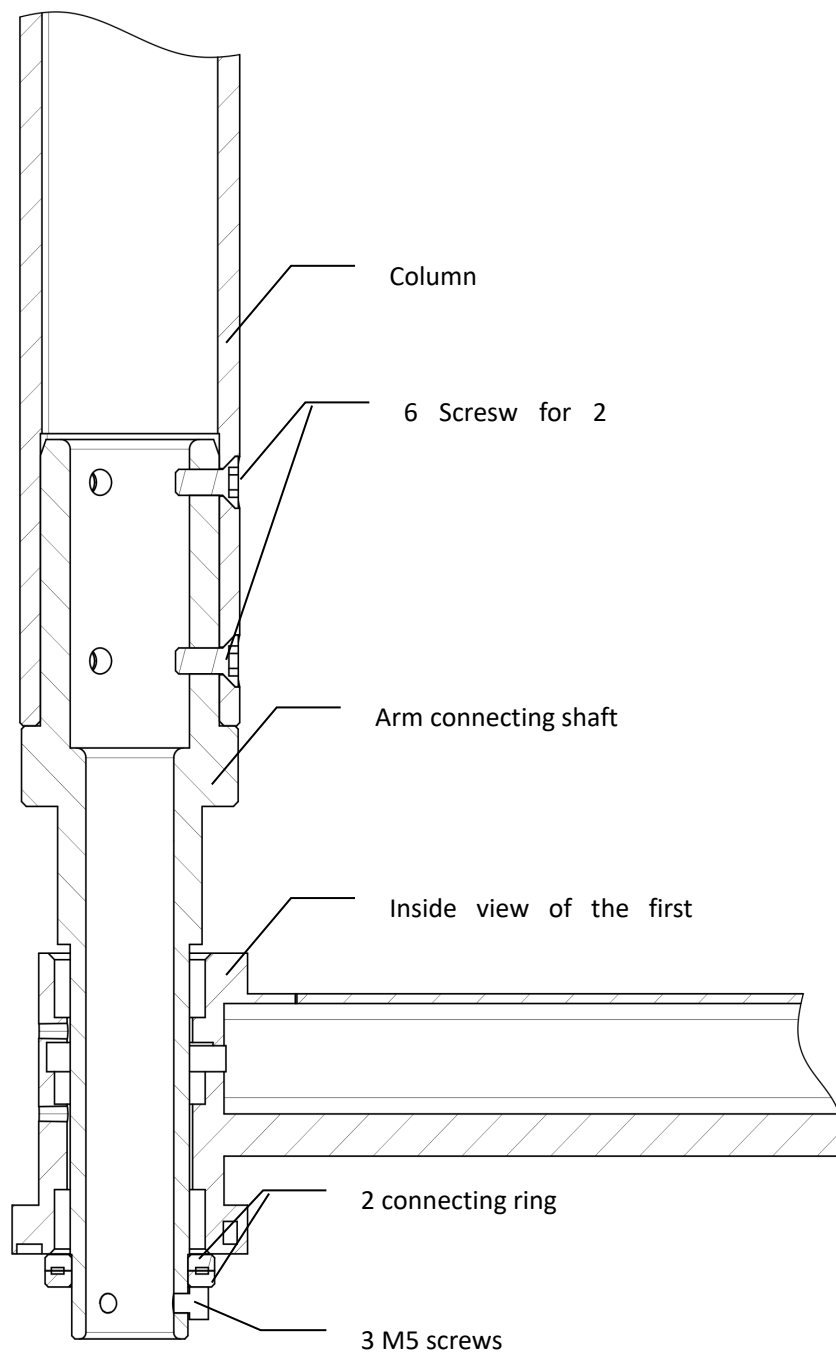

Fig.14
- (2) Install the arm on the ceiling part. Screw the safe ring Use hook spanner to screw tightly the safe ring. Screw on circular column. (Fig 14)